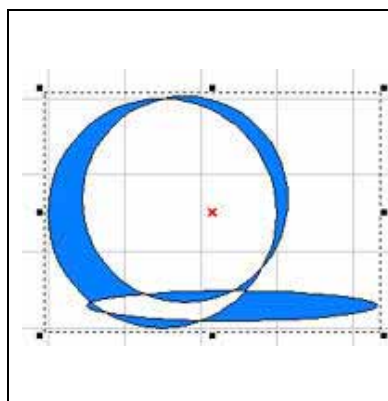
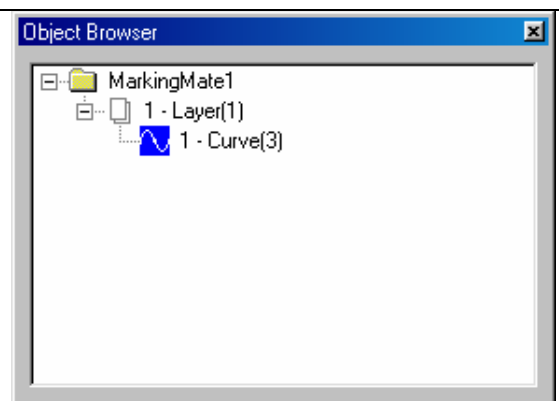

Figure 3
Figure 4
**Step 3:** Select the object you want to edit, click "Edit – Combine" from Menu Bar. This will make the overlapping part become a hollow (as Figure 3 below), and then you can see the object in Object Browser has become a curve (as Figure 4 below).
or click the  button from toolbar. The selected objects have become a group. Use ctrl key and select the individual object still be able to edit objects by individual (as Figure 3 below). At this time, you can see the object type in Object Browser has become a group object; however, each individual object is still visible in Object Browser (as Figure 4 below).
**Step 4:** Click “Edit – Sort” from Menu Bar or click the  button from the toolbar, the object path will be rearranged to be a close-loop object (as Figure 3 below).
**Step 5:** Select the object and go to the “Fill” page of the Property Table, choose the color you want and press “Apply” button, the object will be filled in the color you chose (as Figure 4 below).